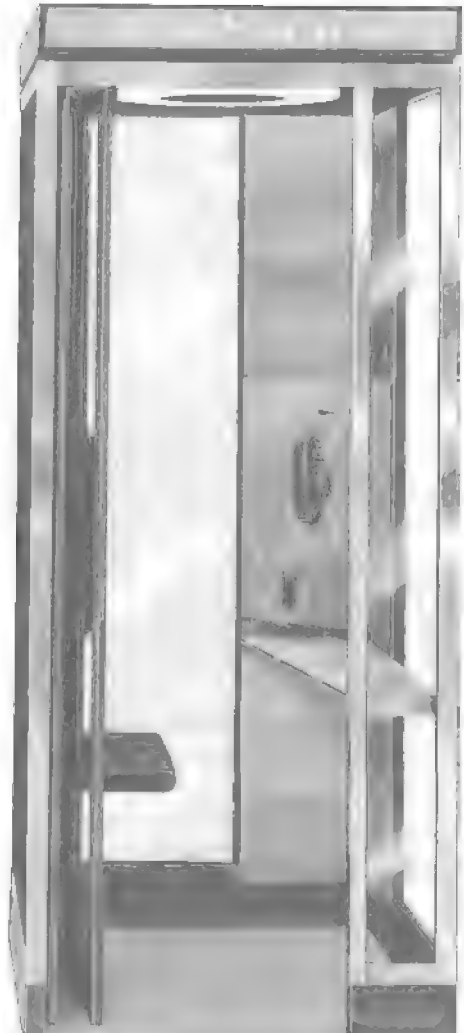

Fig. 1—KS-19442 Deluxe Glass Telephone Booth
1.02 The KS-19442 deluxe glass telephone booth is designed for indoor, sitdown service (Fig. 1). It may be used singly or in various multiple arrangements (side-by-side and/or back-to-back).
2.07 No floor is provided with this booth; however, a KS-19442, List 90 floor (Fig. 1) is available and can be used in single or multiple installations. The walls of the booth must be secured to the surface upon which they are placed if a List 90 floor is not used. Holes are provided in the lower wall extrusions for this purpose.